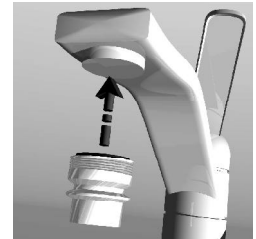

Fig.1
**Step 2:** Install the new aerator. See Fig. 1.